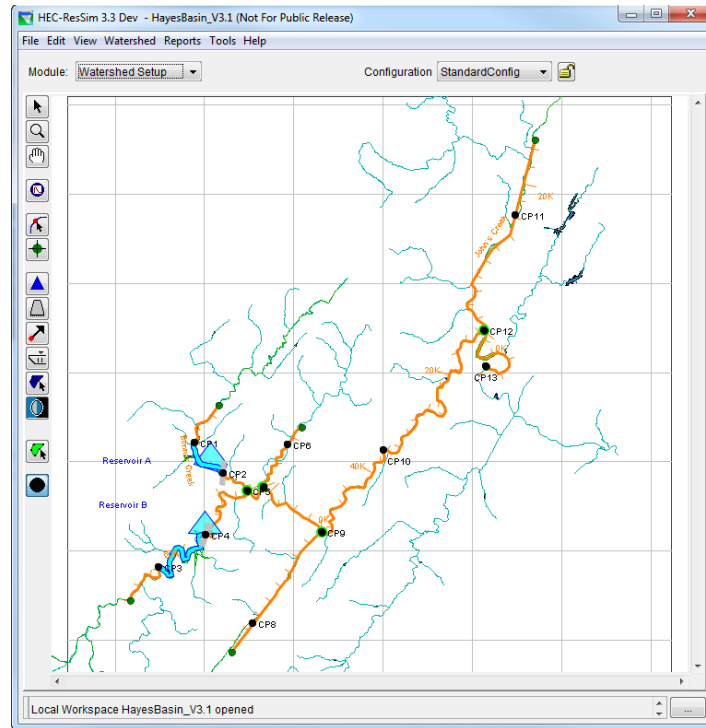

Figure 13: A Simple Configuration, StandardConfig
- **Save the Configuration.** When you are finished adding elements to the Configuration, be sure to save it and turn off editing. Select **Save Configuration** from the **Watershed** menu to save, then “unlock” the Configuration lock (yellow lock button) to toggle off the editability of the Configuration. A fairly simple Configuration (named StandardConfig) is shown in Figure 13.